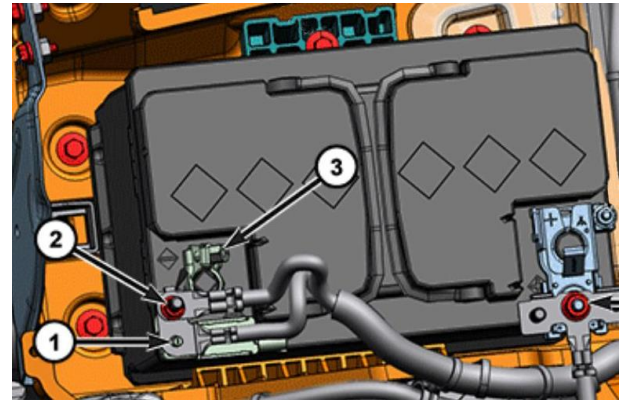

Figure 13 – Battery
31. Connect the Intelligent Battery Sensor (IBS) clamp to the main battery negative post (3) and tighten to the proper torque specification or connect the main battery negative cable (2) to the negative cable clamp. If the main battery negative cable is connected with a nut, install the nut and tighten to the proper torque specification (Figure 13).
33. Connect the auxiliary battery negative cable (11) to the main battery negative cable clamp. If connected by a nut, install the nut and tighten to 5 N·m (44 In. Lbs.) (Figure 13).